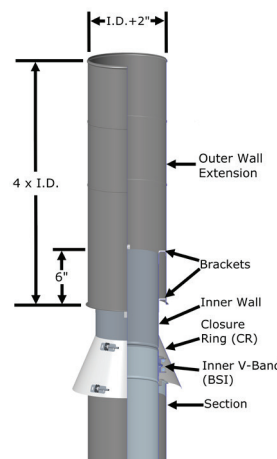

Figure 71a - No Loss Cap (NLC) installed or I.D. from 5" to 13"
The last 6" of the inner flue is surrounded by a larger outer wall (I.D. +2") that has a height of 4 times the flue diameter and is open at the bottom. The Closure Ring (CR) must be seal to the inner wall with outer Sealant **S-375**. Rain water that falls into the larger wall washes down the side of the larger chimney and discharges at the bottom. See **Figure 71a**.
For I.D. from 5" to 13", the No Loss Cap is an integral component that attaches to the chimney flue using a standard inner V-Band (BSI) (See **JOINT ASSEMBLY Section**). For Models CAX1, CIX1, CIX2 and CIX4, a Closure Ring (CR) is provided to protects the insulated space between standard pipe inner and outer. See **Figure 71a**